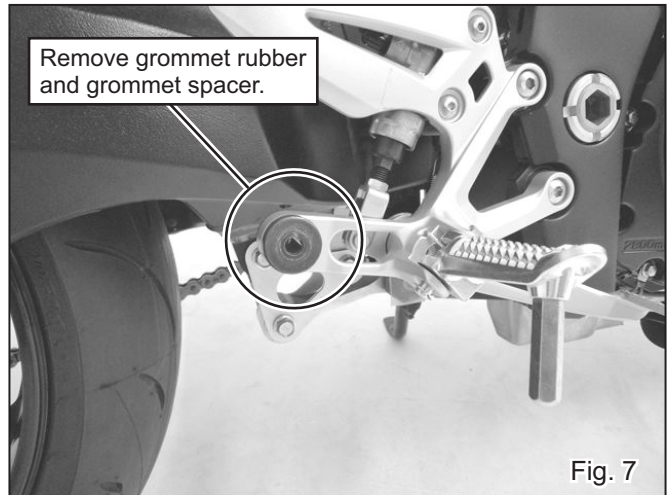

Fig. 7
- 9) Remove grommet rubber and grommet spacer from stock silencer mounting bracket. (See Fig. 7)